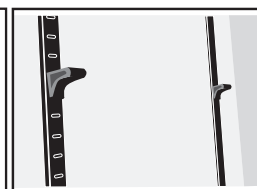

Figure 8.3
3. To reposition the shelf, place the support clips into the selected slot, top first and then the bottom of clip will lock in place when pushed back (Figure 8.3).